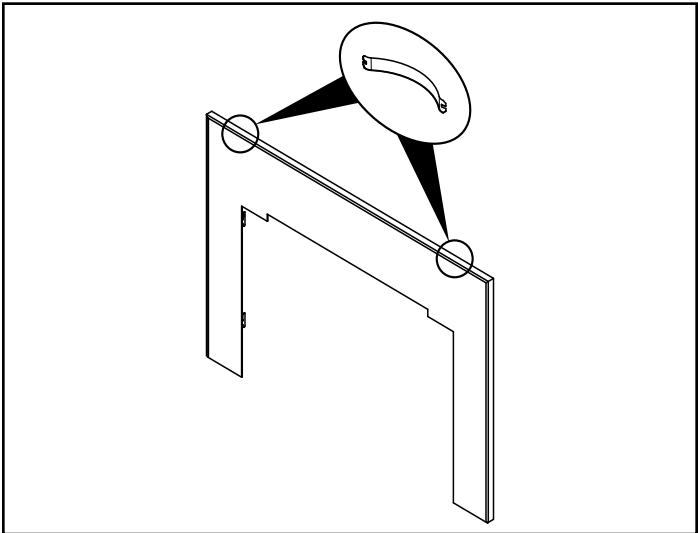

Figure 5.9
4. Install two steel springs at the top on each side and between the flat surround and the assembled trim kit as shown in Figure 5.9.